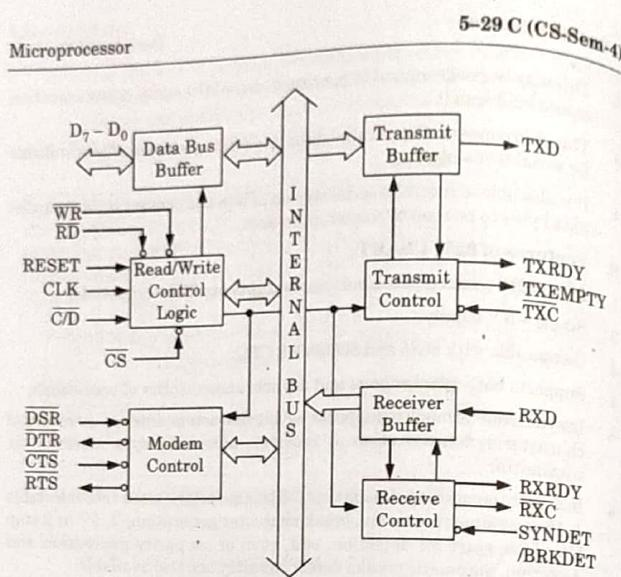

Fig. 5.22.1. 8251A Internal architecture.
- The architectural block diagram of 8251 A is shown in Fig. 5.22.1, followed by the functional description of each block.